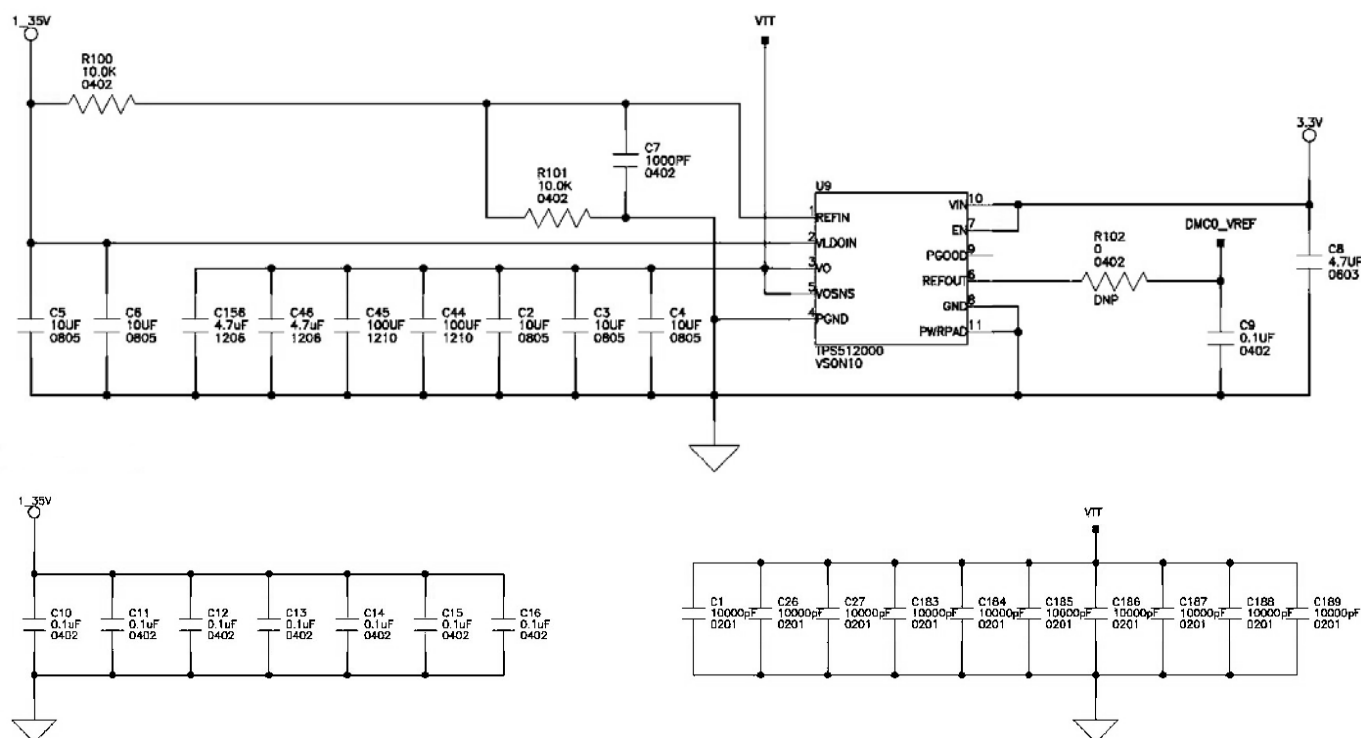

Figure 3. VTT Supply and Decoupling Scheme
- VTT islands require at least two additional decoupling capacitors (4.7μF) and two bulk capacitors (100μF) at each end as shown in Figure 3.
Rev 2 – September 10, 2020 by Sachin-V Kumar	Added new section “Routing Guidelines for Other High-Speed Interfaces” Minor changes in “VTT Termination” Added a new note in “Placement and General Routing Guidelines” Minor changes in “Figure 3”